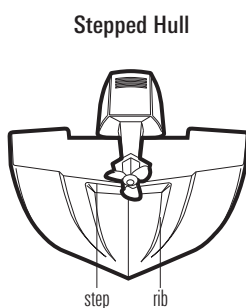

Figure 2
- **Stepped Hulls:** On boats with stepped hulls, it may be possible to mount the transducer on the step. The transducer must remain in the water for the control head to maintain the sonar signal (Figure 2).